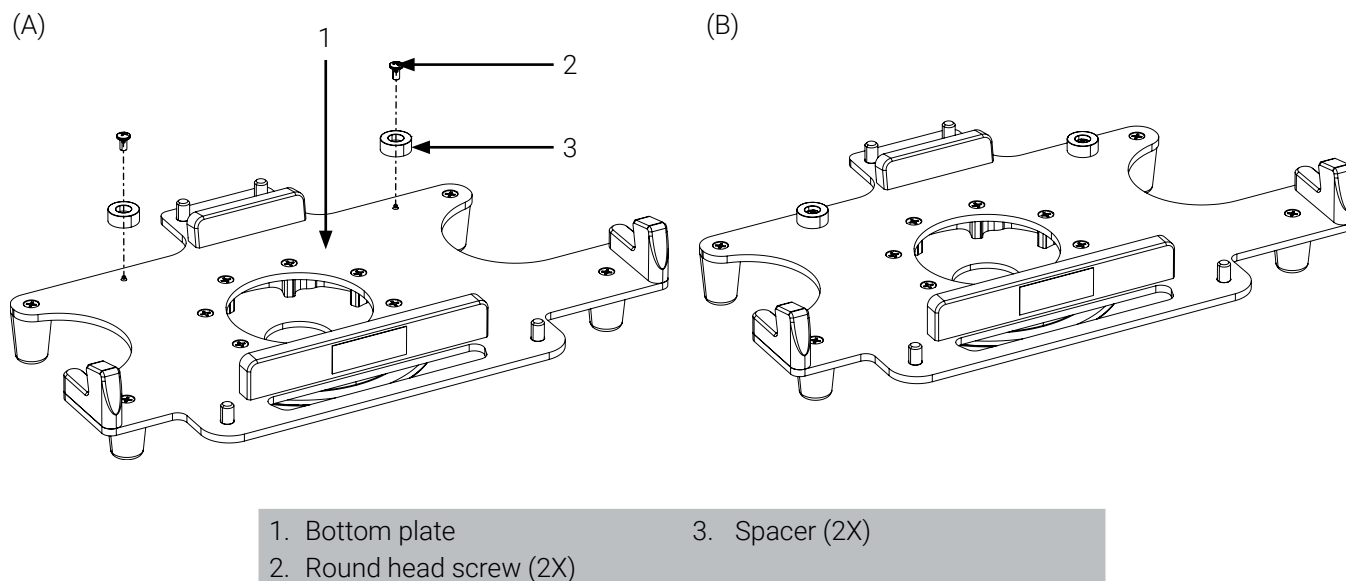

Figure 3: Installing the spacers
2. Install two (2) spacers and two (2) round head screws on the bottom plate, using a Philips screwdriver #2 (Figure 3).